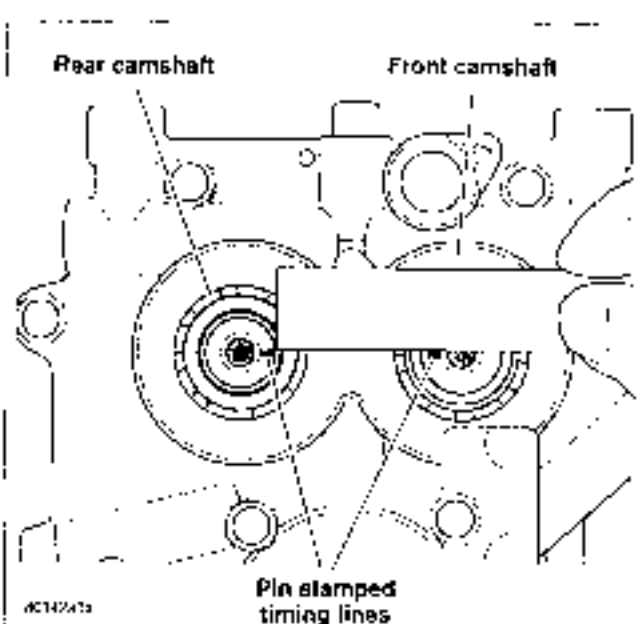

Figure 3-67. Checking Camshaft Alignment
- See Figure 3-67. Using a straightedge, verify that the pin stamped timing lines on the ends of the front and rear camshafts are in alignment. If necessary, rotate camshafts in order to make this observation.